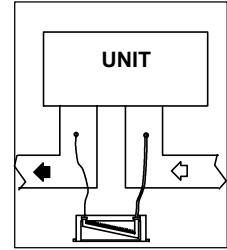

FIGURE 43
- a- Locate taps as shown in figure 43.